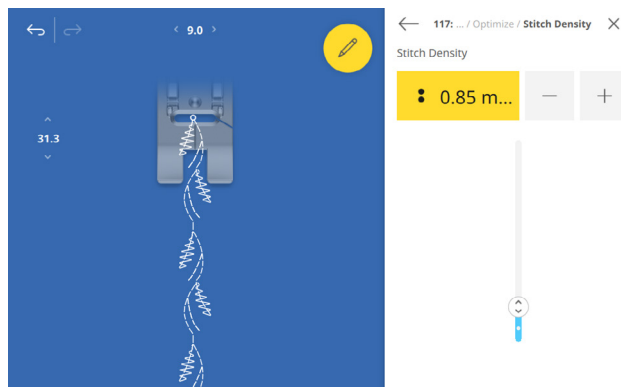

Fig. 16
5. Next, increase the Stitch Density to .85 mm and sew (Fig. 16).